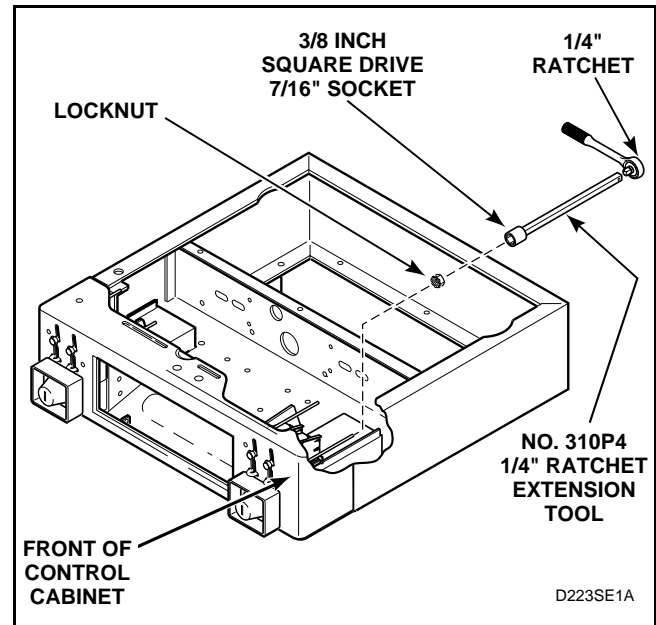

Figure 22
- (7.) Use a 3/8 inch square drive 7/16" socket with No. 310P4 1/4 inch Ratchet Extension Tool to remove two locknuts holding coin drop to front of control cabinet. See *Figure 22*.
- (5.) Using a 3/8 inch square drive 7/16" socket with No. 310P4 1/4 inch Ratchet Extension Tool, reinstall locknut. Tighten locknut firmly. See *Figure 22*.